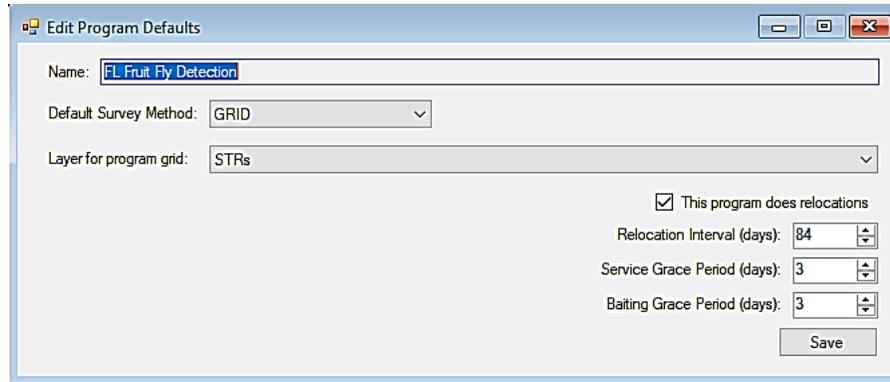

Figure 105. *Edit Program Defaults* menu
*Edit Program Defaults* – This feature produces a menu allowing changes to the program defaults. (Figure 105)